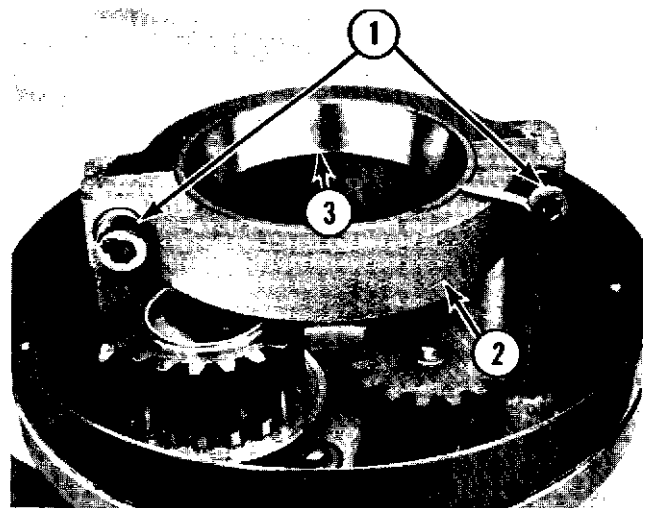

Fig. 10-6
- A. With the planetary removed from the mixer, remove the two socket head screws (1, Fig. 10-6), and the bearing cap (2, Fig. 10-6) and bearing cup (3, Fig. 10-6).